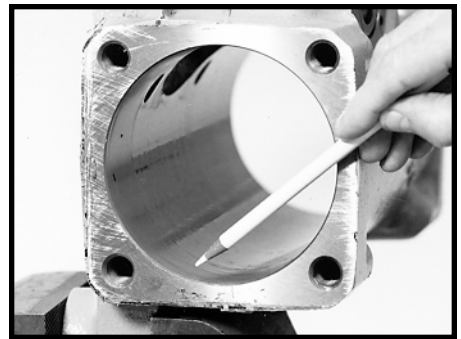

Figure 92
4. Inspect the housing (19) cylinder bore. SEE FIGURE 92. You will probably notice normal scoring marks running lengthwise through the bore. Since this scoring is normal, you should not compare it to the scoring considered detrimental in the cylinder bores of an internal combustion engine. Replace the housing only if you've tested it for internal leakage (as described in the troubleshooting section on page 7) and you've determined that the scoring, and not damaged seals, is responsible for the excessive internal leakage, greater than 1.5 gpm (5.7 liters/min.)